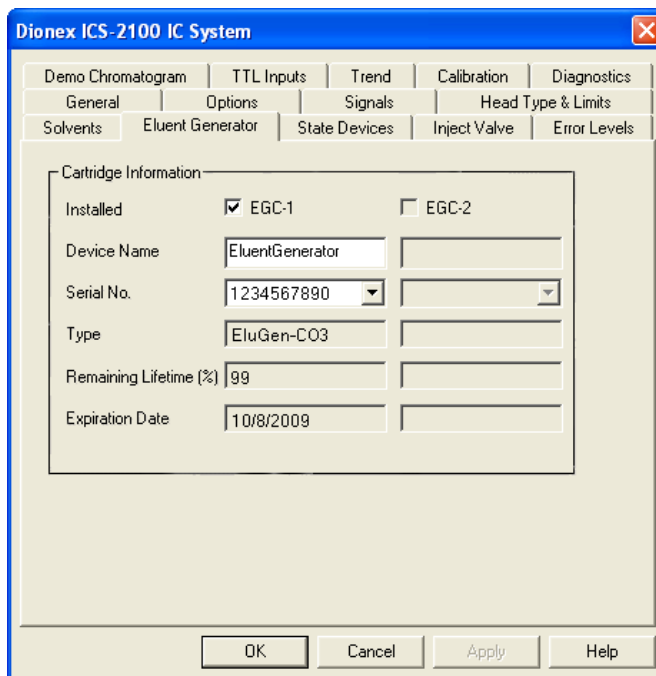

Figure 92. Eluent Generator Configuration Properties: CO₃ Example
3. Click the **Eluent Generator** tab (see Figure 92).